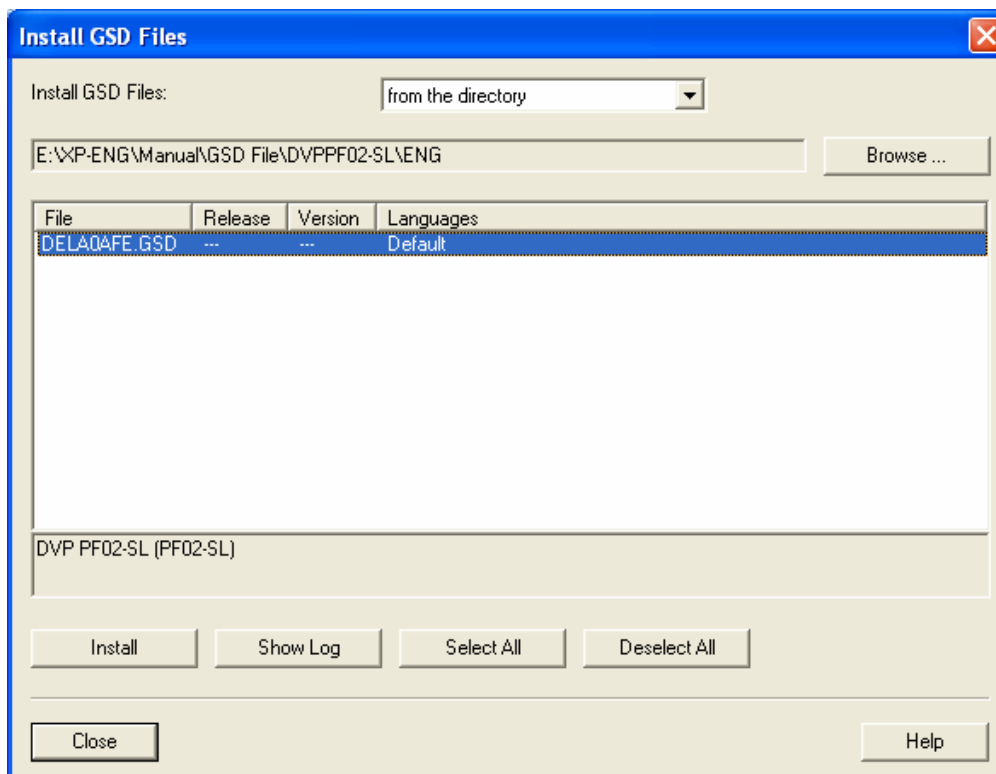

Figure 10-18
- Find the location to save the GSD file, select the GSD file to be installed and click “Install”, as Figure 10-18.